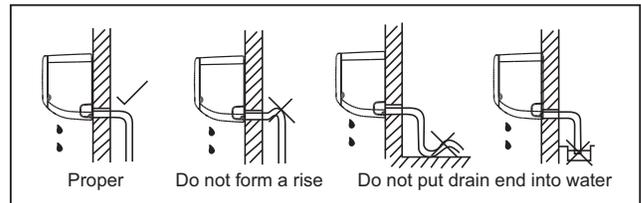

**Fig. 15 – Indoor Unit Installation**
- Push the lower part of the indoor unit up on the wall, then move the indoor unit from side to side, up and down to check if it is hooked securely (see Fig. 15).